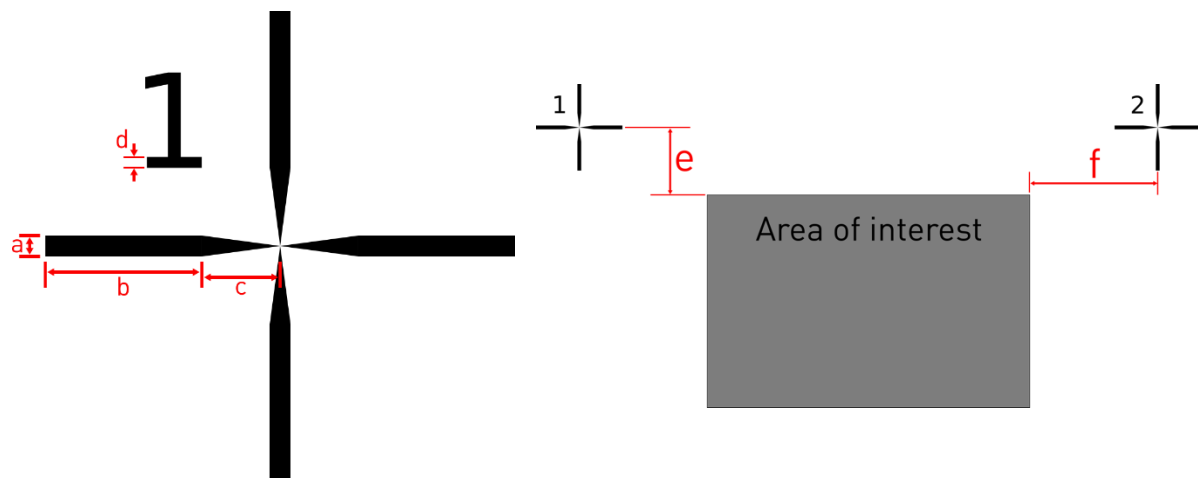

Figure 48 - Design rules. Left: focus on an alignment cross and its key dimensions. Right: cross positioning over the substrate
- Two alignment crosses surrounding the area of interest (Figure 48 right). For each design, the crosses must be at the same relative position
- Add a unique number to each cross (Figure 48 left) to avoid bad substrate orientation
Tableau 1 - Suggested dimensions for the design in Figure 48